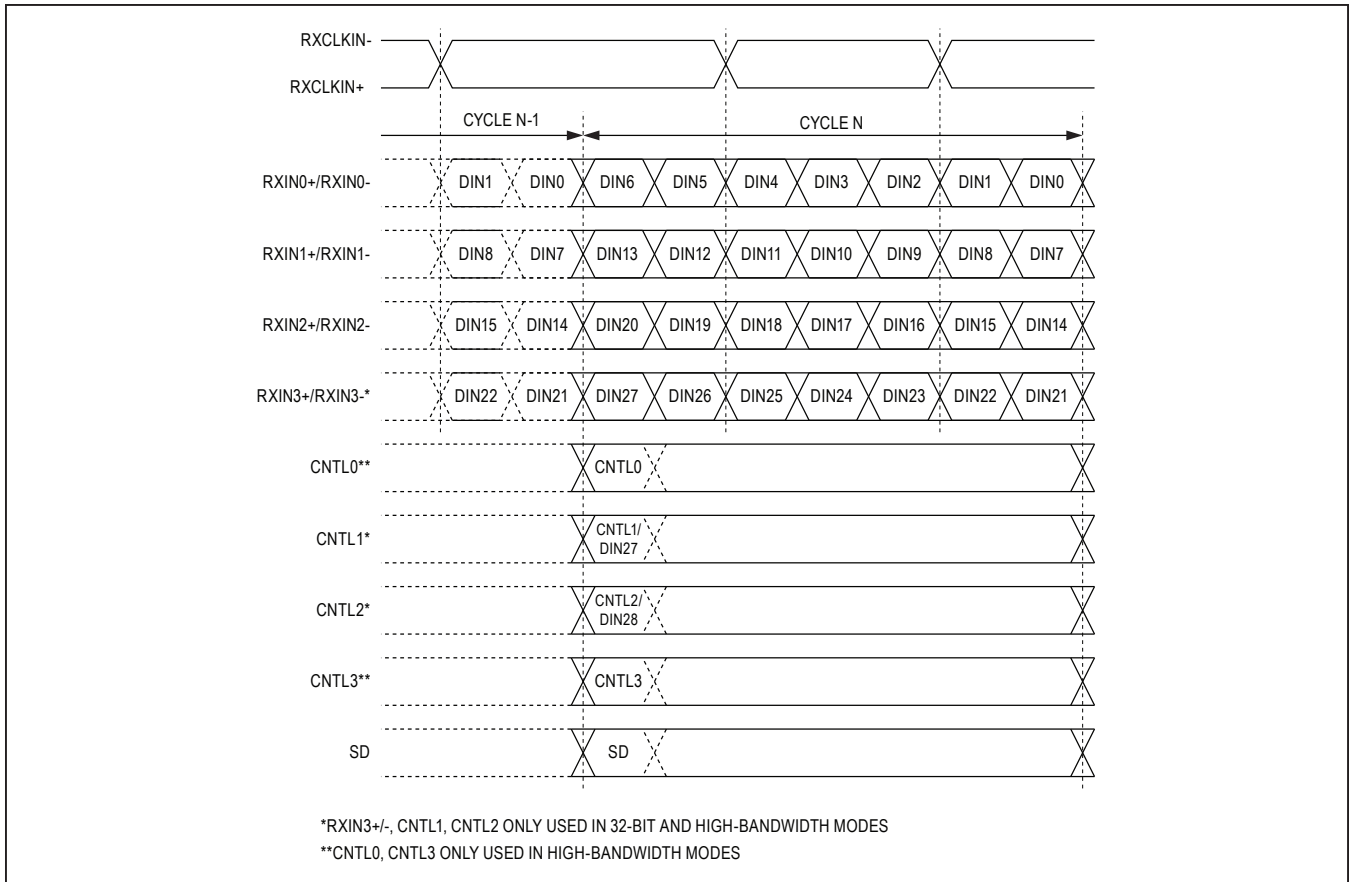
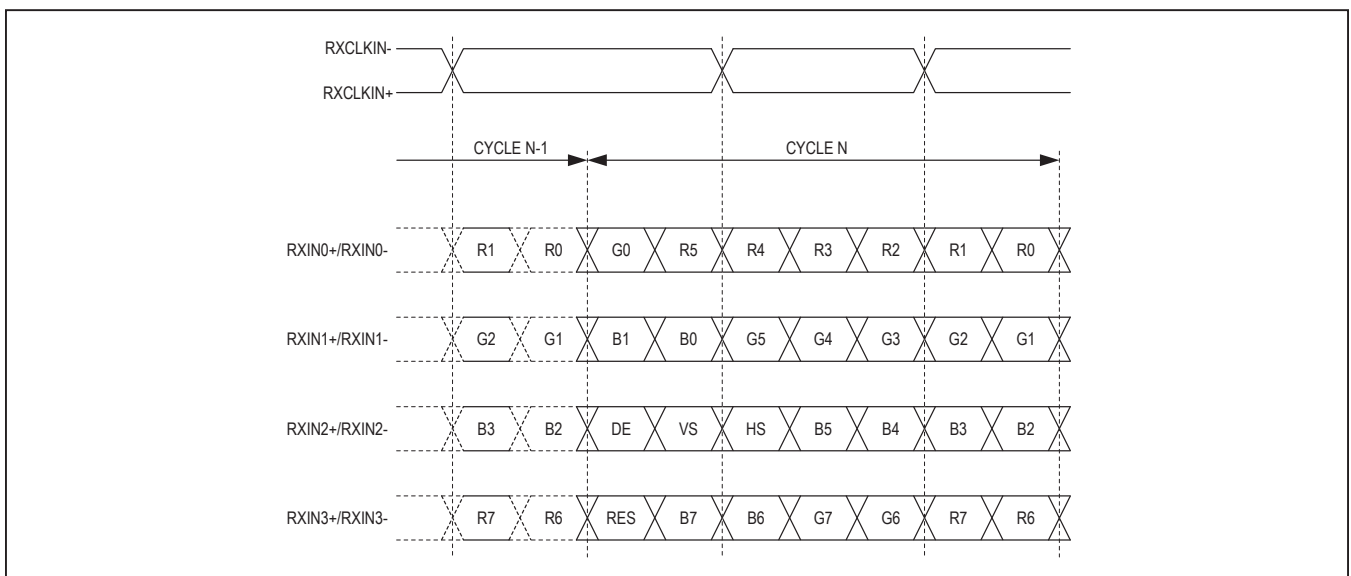

Figure 15. LVDS Input Timing
Figure 16. LVDS Clock and Bit Assignment
| 19     | CNTL1                    | Control Input With Internal Pulldown to GND. Input data is latched every RXCLKIN_ cycle (Figure 15). CNTL1 is not available in 3-channel mode (BWS = low). Set BWS = high or open (4-channel or high-bandwidth mode) to use this input. CNTL1 not encrypted when HDCP is on (MAX9281 only) CNTL1 or RES ("Reserved" from VESA Standard Panel Specification) is mapped to internal bit DIN27. See the <a href="#">Reserved Bit (RES)/CNTL1</a> section.  |
| 20     | CNTL2                    | Control Input With Internal Pulldown to GND. Input data is latched every RXCLKIN_ cycle (Figure 15). CNTL2 is not available in 3-channel mode (BWS = low). Set BWS = high or open (4-channel or high-bandwidth mode) to use this input. CNTL2 not encrypted when HDCP is on (MAX9281 only). CNTL2 is mapped to internal bit DIN28.  |
**Table 2. Input Map (See Figure 15, Figure 16)**